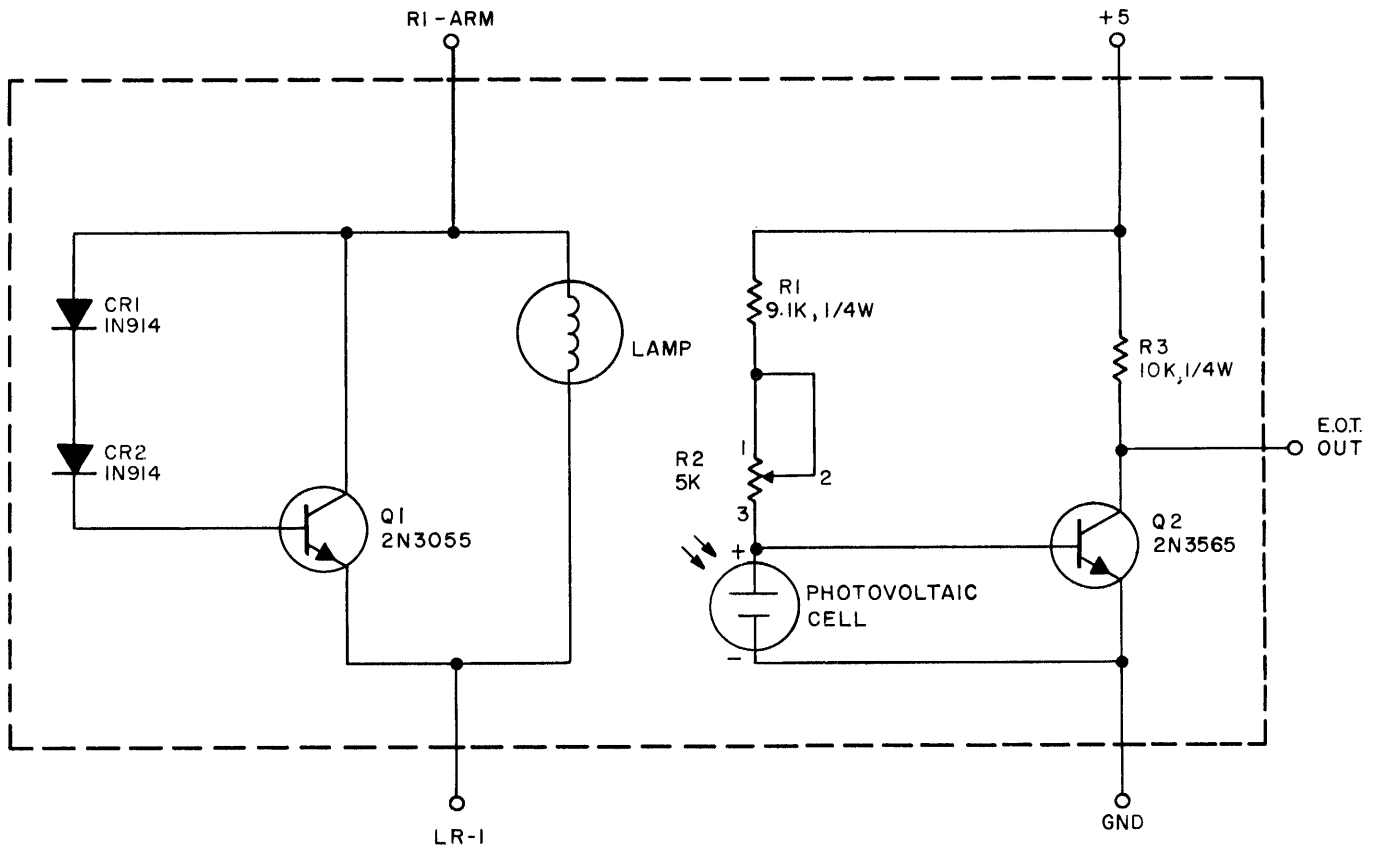

Figure 7-3. End-of-Tape Sensor, Schematic Diagram
- OPTIONAL E.O.T. SENSOR IS WIRED IN SERIES WITH LAMP CIRCUIT, BETWEEN R1-ARM AND LRI (SEE FIG 7-3)